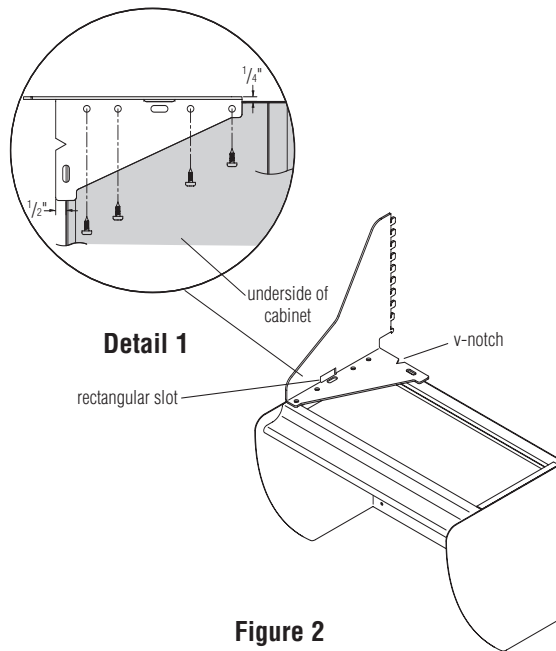

Figure 2
2. Position brackets onto bottom of overhead so that the "point" of the v-notch aligns with the back of the overhead such that $\frac{1}{2}$ " overhangs the back of the cabinet (Detail 1). The rectangular slot should align with the side of the overhead such that $\frac{1}{4}$ " of bracket overhangs the side of the cabinet (Figure 2).